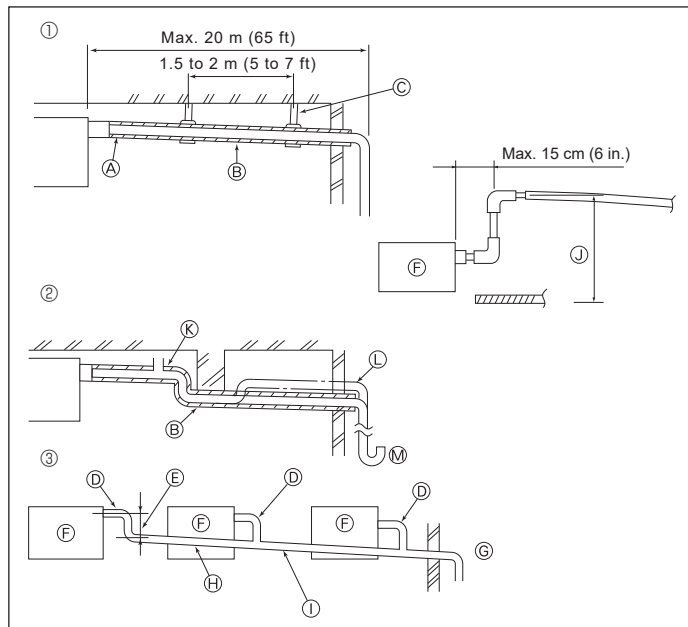

Fig. 3-4
3.4. Drainage piping work (Fig. 3-4)
- ① Correct piping
- ② Wrong piping
- ③ Grouped piping